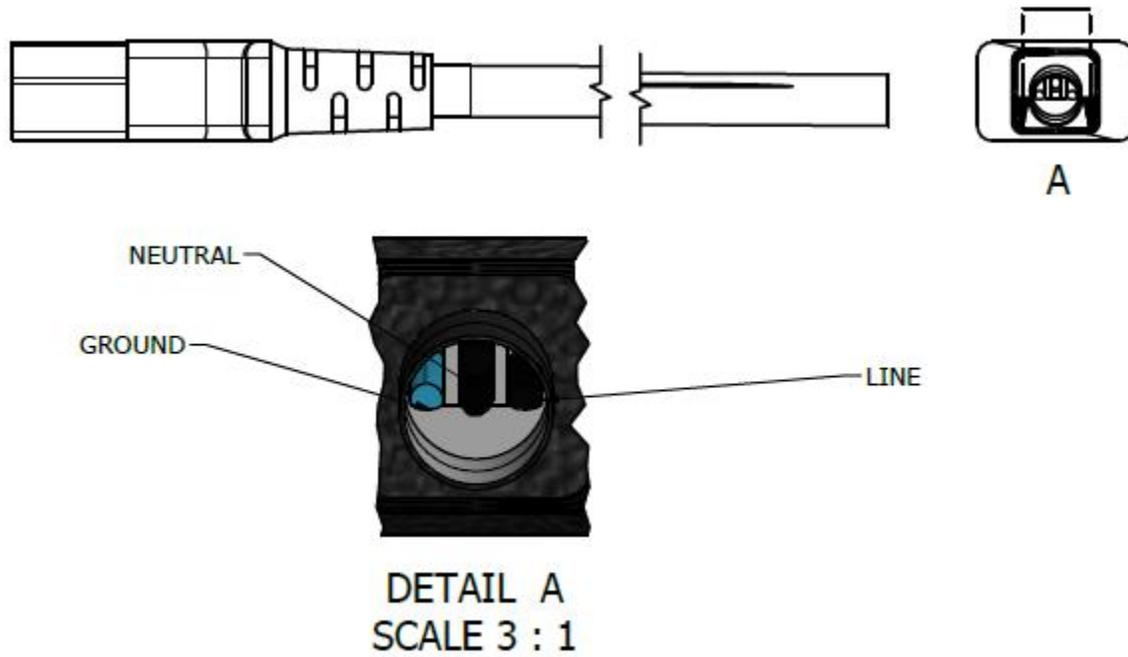

Figure 4: Power cord layout.
5. Look for a package for the 10GigE NIC. The package looks as in Figure 4. Have this on a side.